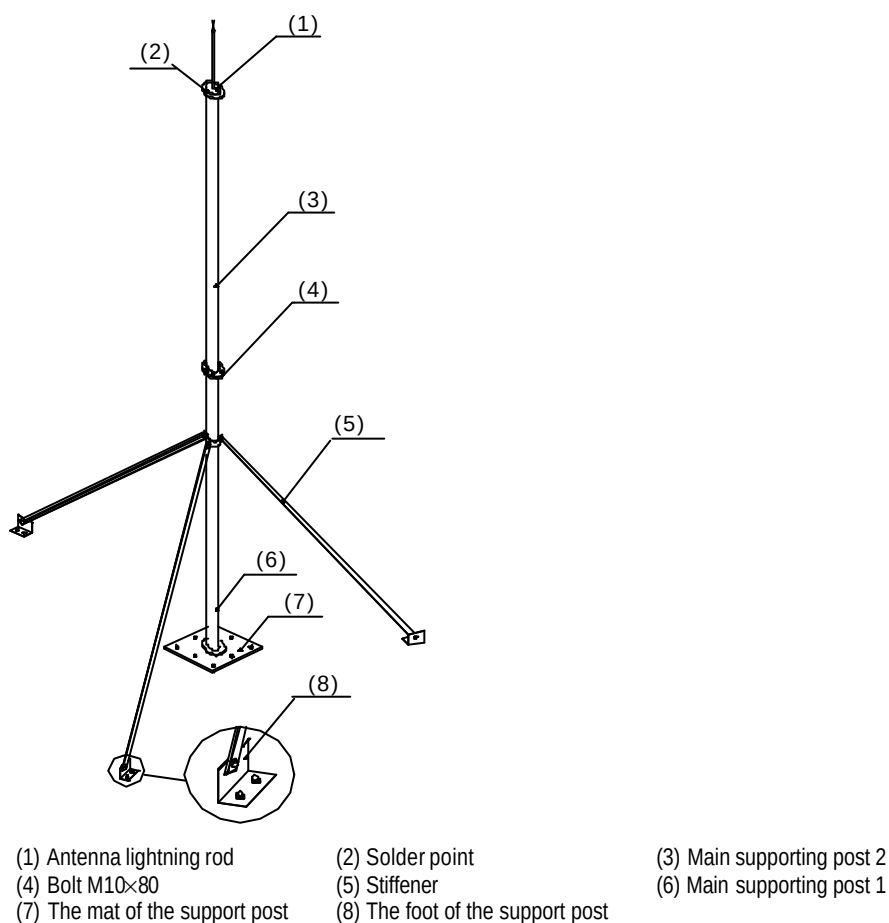

Figure 6-19 Structure of the antenna stand on the roof
There are several structures of the antenna stand on the roof, take the following one shown in Figure 6-19 for example.
- 5) The main supporting post should be reinforced using the stiffener. It depends on the length of the main supporting post to decide the length of the stiffener. As shown in Figure 6-19, connect the stiffener with the main supporting post securely using the connecting pieces of the stiffener. Connect the anchor onto the stiffener. Fix each anchor of the stiffener onto the surface of the roof using two expansion bolts M10×45. Make all efforts to ensure that no deformation may occur to the stiffener;
- 6) As shown in Figure 6-19, connect the main supporting posts 1 and 2 of the stand securely using six bolts M10×80;